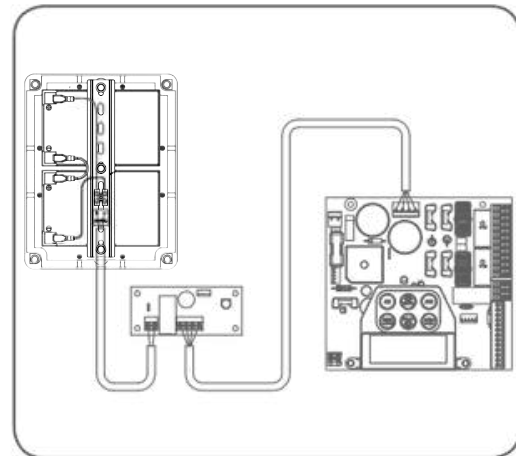

fig 55
3. Connect the SBY-3 charger board to battery box and to DCB-05 as shown **(Fig. 55)**.